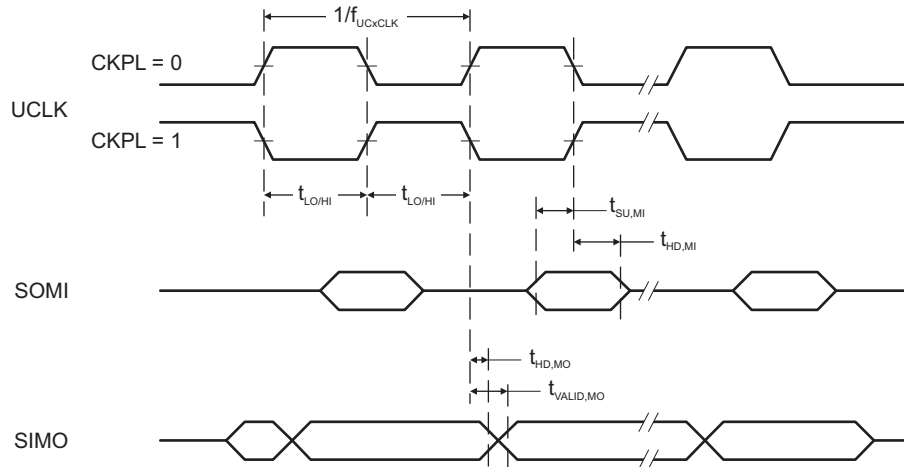
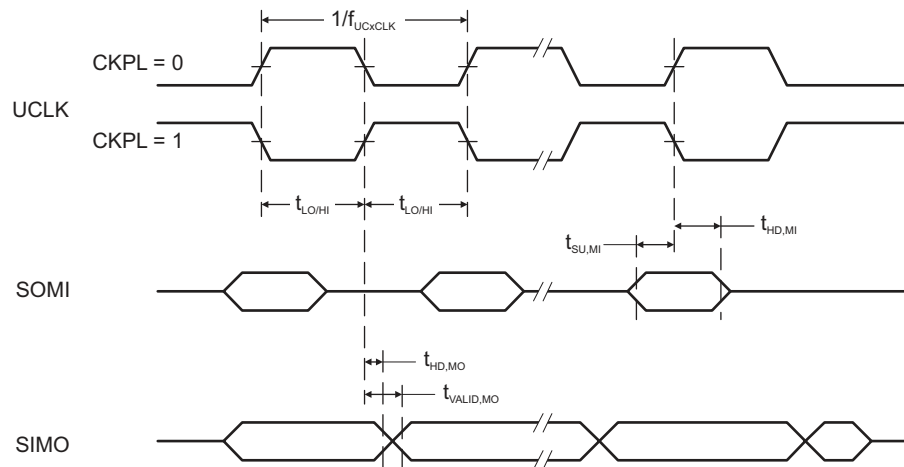

Figure 5-11. SPI Master Mode, CKPH = 0
Figure 5-12. SPI Master Mode, CKPH = 1
Table 5-19. USCI (SPI Master Mode)over recommended ranges of supply voltage and operating junction temperature (unless otherwise noted)⁽¹⁾(see Figure 5-11 and)
- (2) Specifies the time to drive the next valid data to the SIMO output after the output changing UCLK clock edge. See the timing diagrams in Figure 5-11 and Figure 5-12.
- (3) Specifies how long data on the SIMO output is valid after the output changing UCLK clock edge. Negative values indicate that the data on the SIMO output can become invalid before the output changing clock edge observed on UCLK. See the timing diagrams in Figure 5-11 and Figure 5-12.